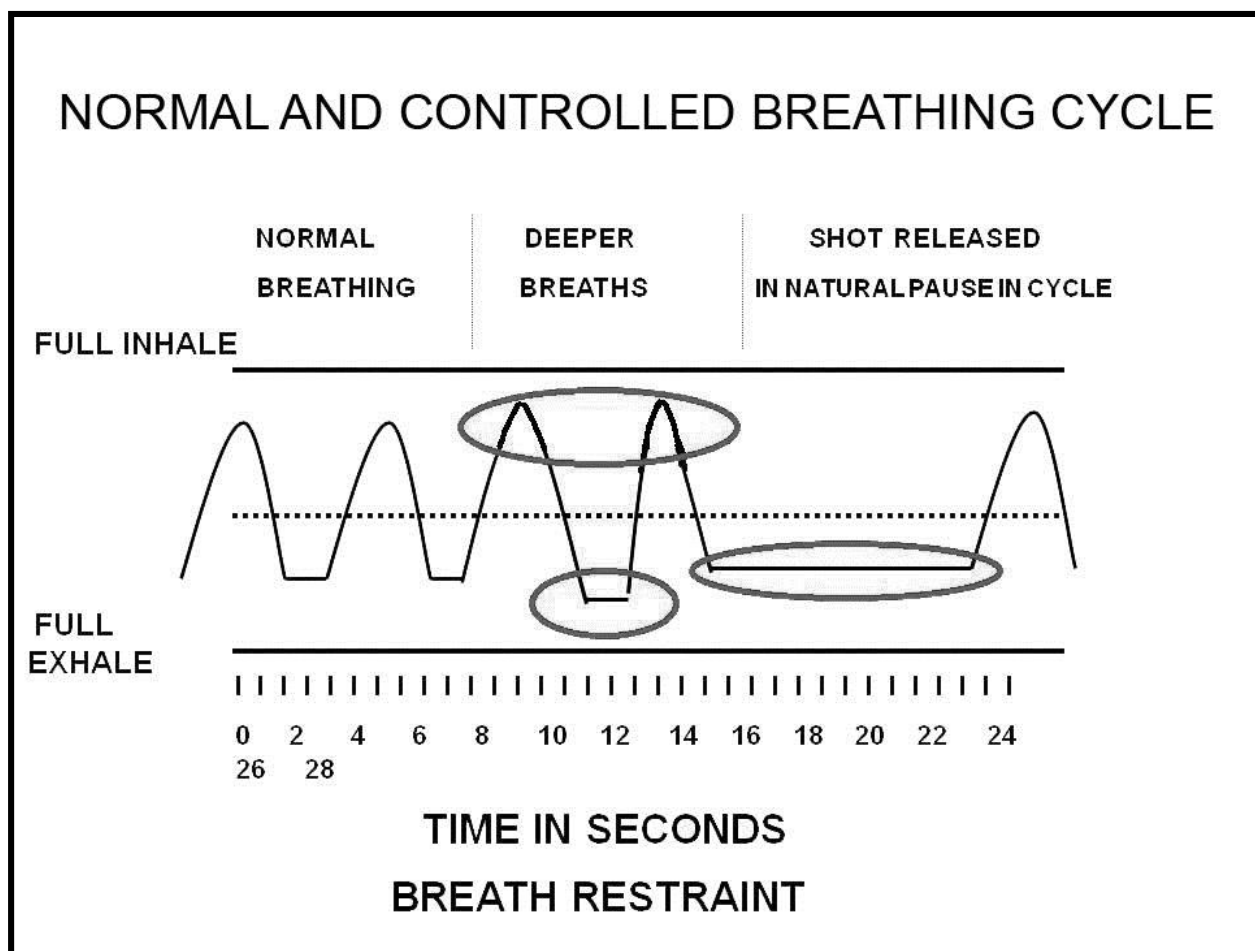

Figure 128. Normal and Controlled Breathing Cycle
- c. Figure 128 has been in circulation for over forty years. Unfortunately, some people will sometimes misinterpret it and wrongfully revert to holding their breath.